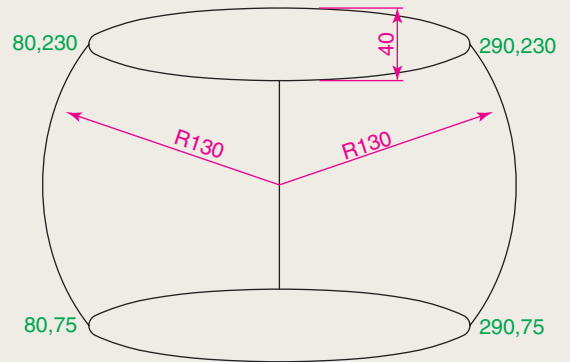

Fig. 3.47 Exercise 3
- Using the **Ellipse** and **Arc** tools construct the drawing Fig. 3.47.